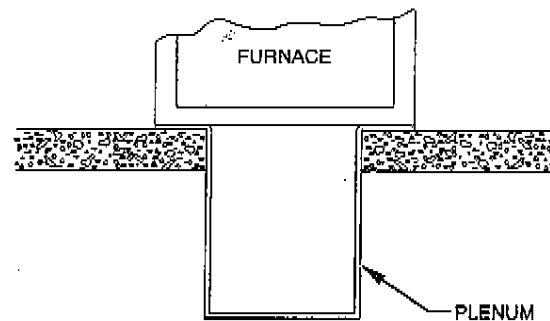

Fig. 14—Furnace on a Concrete Slab (Non-Garage Installation)
2. Place plenum and furnace as shown in Fig. 14.